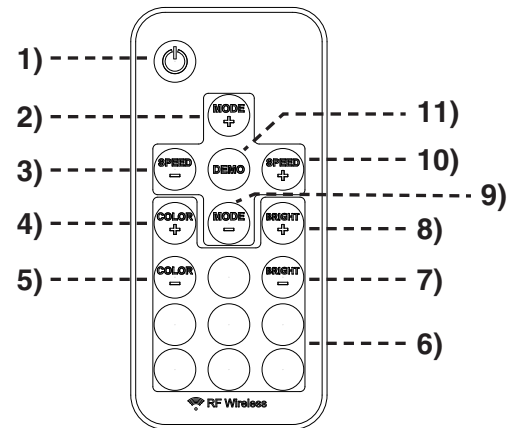
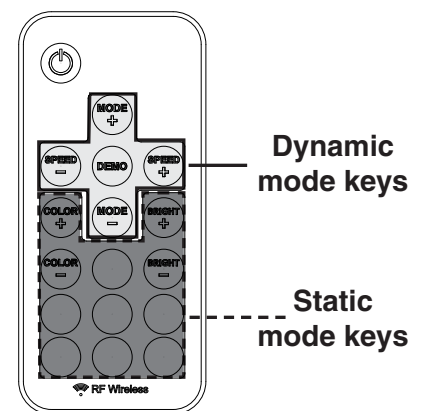

Fig. 53-1 Remote transmitter detail
Fig. 53-2 Remote transmitter modes detail
Prior to remote transmitter use, familiarize yourself with the transmitter keys as illustrated in Fig. 53-1 and Fig. 53-2.
2. Press the **POWER** key on the remote transmitter to turn the light on or off (see Fig. 53-1).
3. Use the remote as desired. Reference the above section and Fig. 53-1 and 53-2.